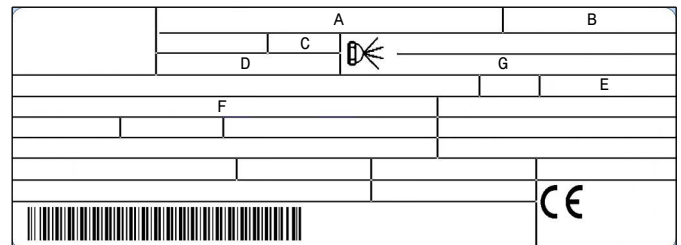

Fig. 6
- the model (see **A** in Fig. 6) and the type of burner (**B**);